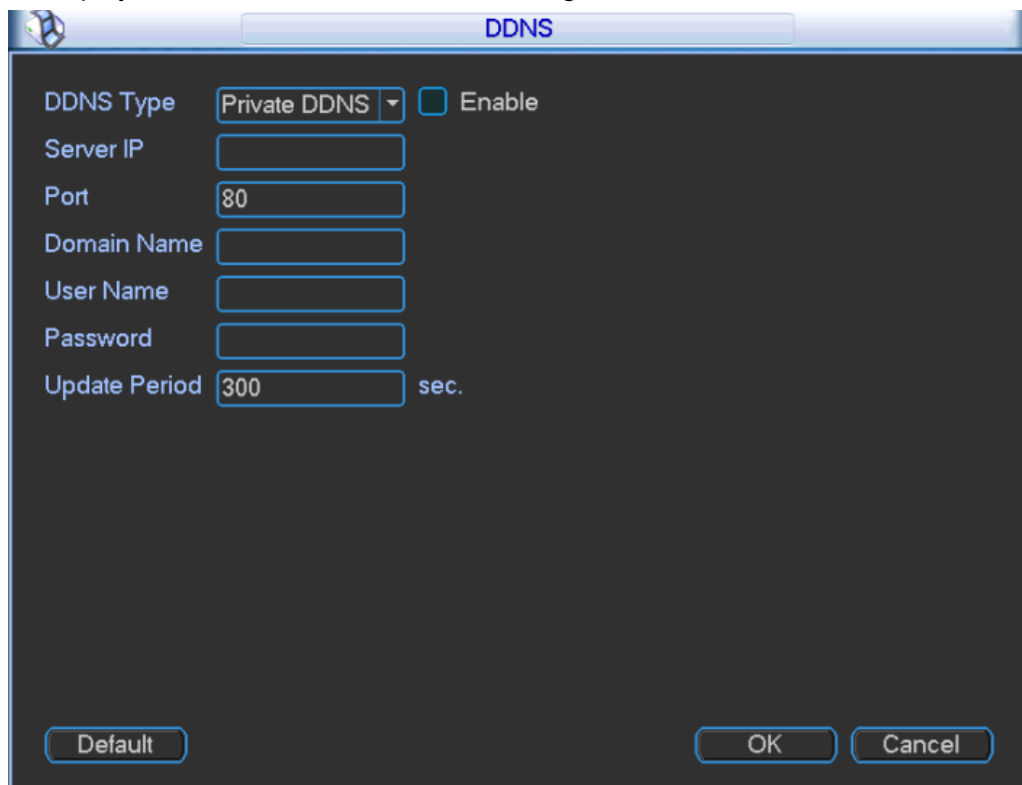

Figure 3-42
Step 1 In main menu, select “Setup> Network> Network Setup > DDNS”, and the system displays “DDNS” interface, as shown in Figure 3-42.